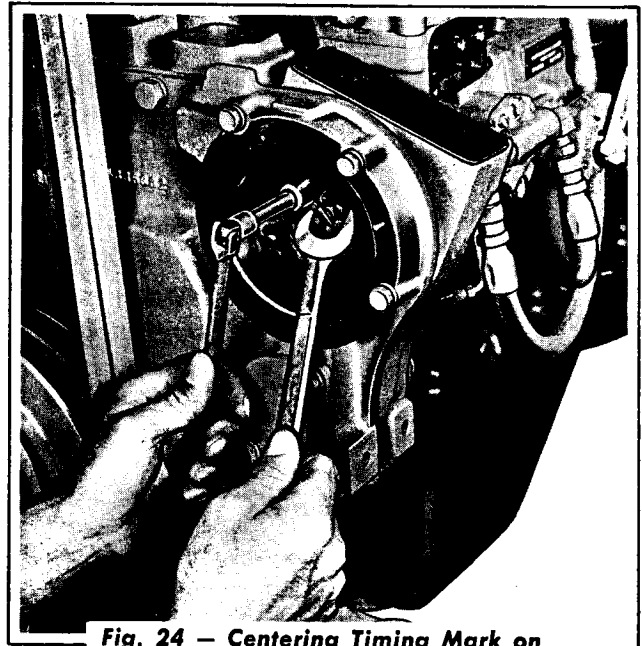

Fig. 24 — Centering Timing Mark on Drive Gear Hub
9. Remove the pump drive gear access cover from the timing gear housing cover. Remove the pump drive gear attaching capscrews and remove the drive gear serrated plate. Withdraw the pump drive gear. **NOTE:** When the fuel injection pump is mounted on the engine there is spring pressure on the cam of the pump camshaft. Upon removal of the drive gear attaching capscrews, the pump camshaft will rotate counter-clockwise from the spring pressure. A camshaft holding tool (shown in Fig. 24) is available to hold the cam in its proper timed position. The tool can be fastened to the pump upon removal of the fuel supply pump.
5. Insert a wrench on the pump drive gear hub retaining nut and turn the nut to align the CENTER timing mark on the drive gear hub with its timing pointer (Fig. 24). While holding the CENTER timing mark on the drive gear hub in alignment with its timing pointer, tighten the three pump drive gear attaching capscrews.